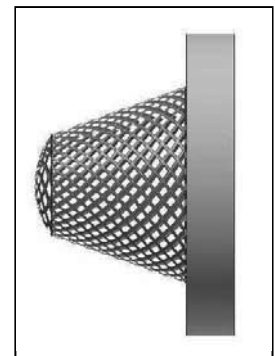

Figure 5-1 Filter Washer Assembly (P/N 110987)
- Remove the filter washers from the GHT inlet fittings and wash them with clean water. See Figure 5-1.